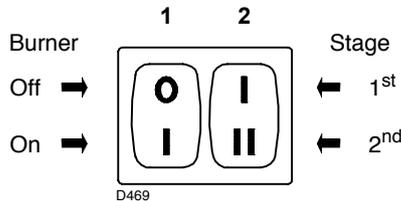
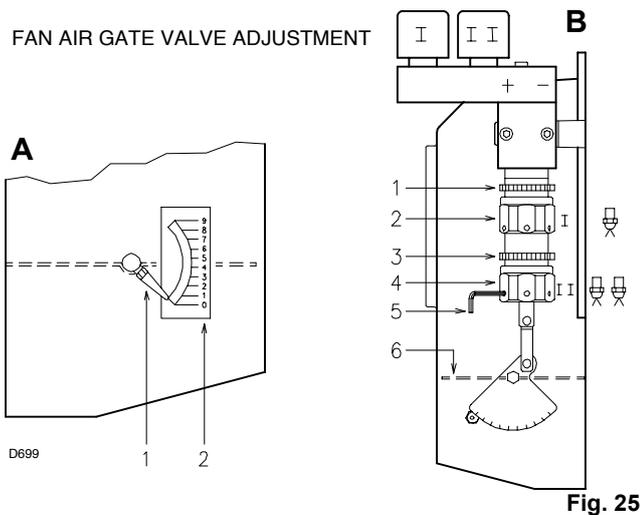

Fig. 24
Fig. 25
- Start the burner by closing the control devices and with switch 1)(Fig. 24 on page 25) in the "ON" position. The pump must rotate in the direction of the arrow marked on the cover.
- The pump can be considered to be primed when the fuel starts coming out of the screw 3). Stop the burner: switch 1)(Fig. 24 on page 25) set to "OFF" and tighten the screw 3).
Set switch 1)(Fig. 24) to "ON".
Keep the burner operating at 1st stage by setting the switch 2) (Fig. 24 on page 25) to the 1st stage position. Opening of the air gate valve 6)(B, Fig. 25) must be adjusted in proportion to the selected nozzle: the index 1) (A, Fig. 25) must be aligned with the notch 2) (A, Fig. 25) specified in (Tab. K). This adjustment is achieved by turning the hex element 2) (B, Fig. 25):
N° = Notch 2)(Fig. 25)
Set switch 2) (Fig. 24 on page 25) to the 2nd stage position and adjust the air gate valve 6) (B, Fig. 25) by turning the hex element 4) (B, Fig. 25), after having loosened the ring nut 3)(B, Fig. 25).
in order to facilitate adjustment of hex elements 2) and 4) (A, Fig. 25), use a 3 mm Allen key 5) (B, Fig. 25).
2,3 (Fig. 25) notch aligned with index 1) (Fig. 25).